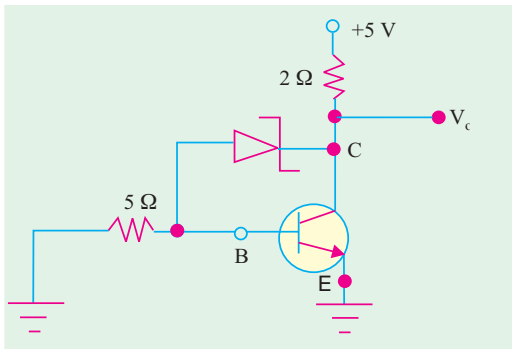

Fig. 58.32
12. The voltage V_0 of the circuit shown in Fig. 58.32 is,